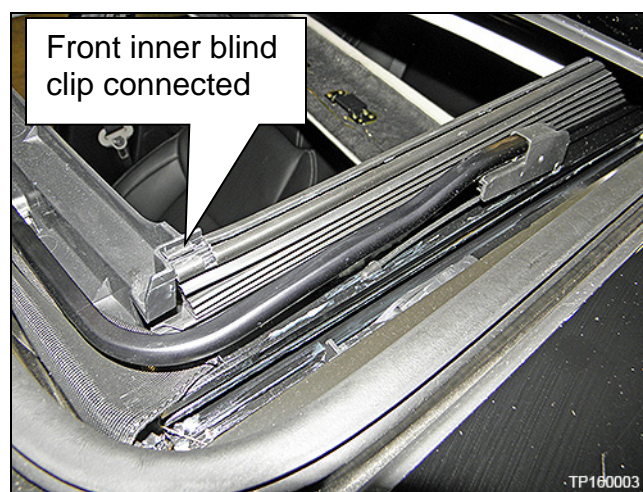

Figure 52
- b. Reconnect the front clip of the inner blind to the front corner of the Moonroof frame (Figure 52).